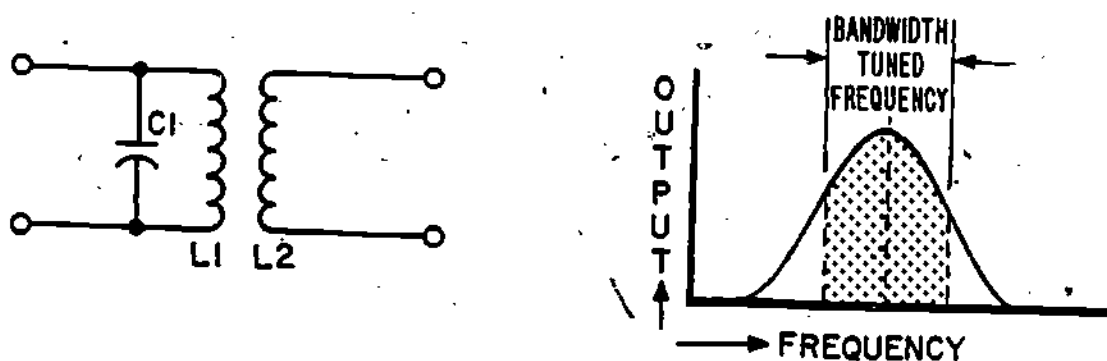
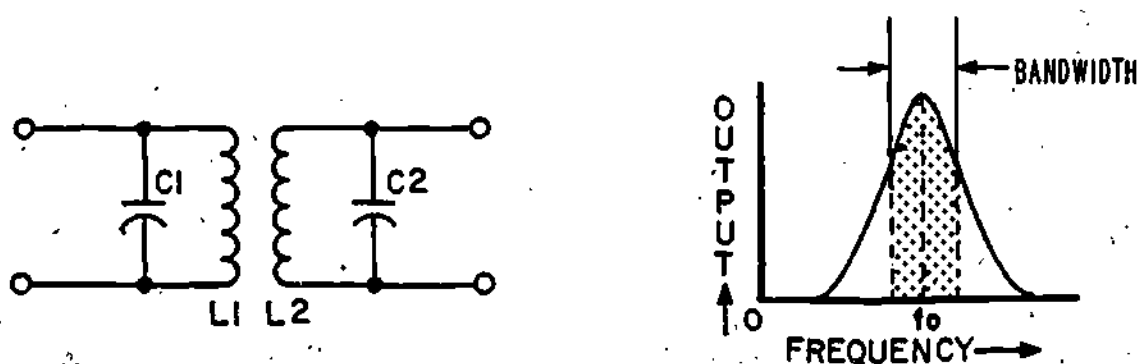

Figure 2
Figure 3
- An actual IF amplifier with tuned-primary transformer coupling has a frequency response curve which more closely resembles Figure 2.
There are ways to make the frequency response curve of an IF amplifier resemble the ideal curve and thus improve amplifier operation. For example, a tuned circuit may be added to the secondary of the transformer shown in Figure 2. Both primary and secondary then can be tuned to the same frequency, or synchronous tuned. If the two tuned tanks are synchronous tuned to the IF center frequency, the resulting frequency response curve is shown in Figure 3.
Synchronous tuning occurs when all tuned circuits in the signal path are tuned to the same frequency. In Figure 3, notice that synchronous tuning has caused the bandwidth to become narrower and selectivity to increase.